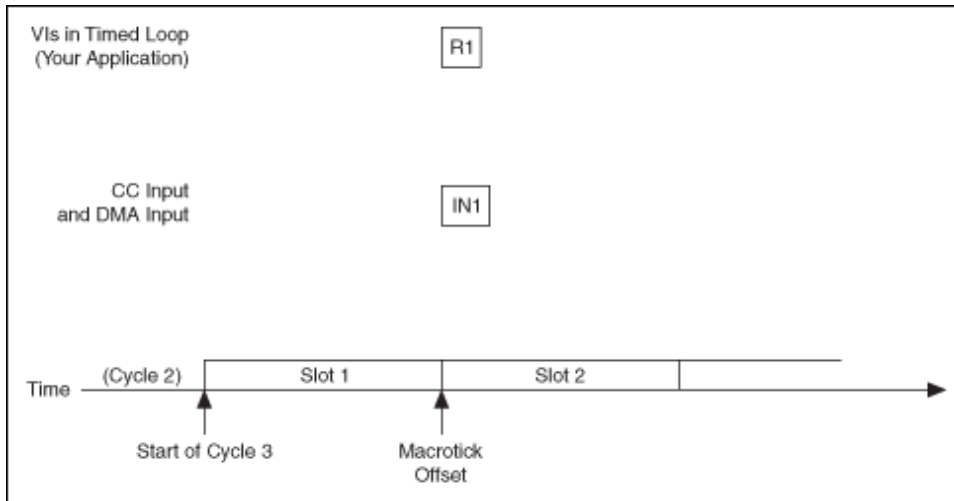
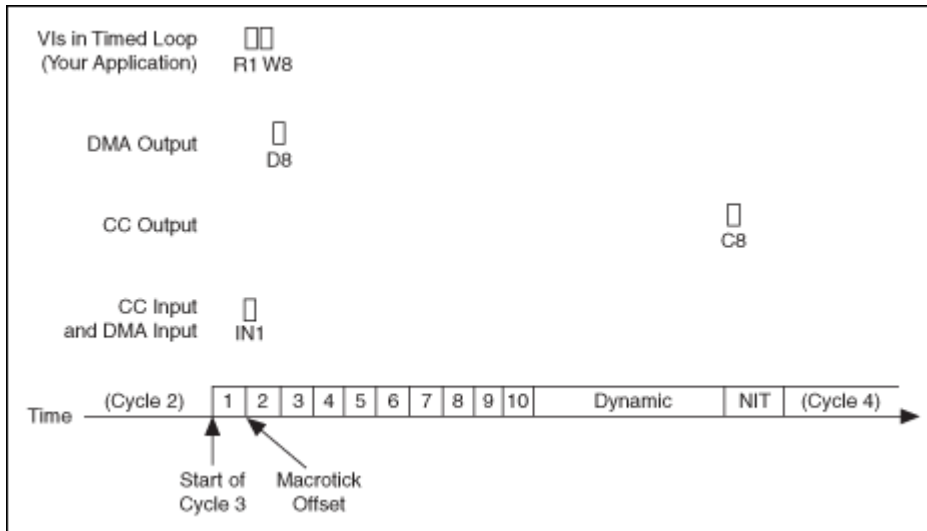

Figure 1—FlexRay Frame Timed Read
Figure 2—FlexRay Frame Timed Write
Figure 1 shows the effects of this implementation. In this example, the macrotick offset is set to occur at the end of slot 1. The subdiagram in the Timed Loop calls the XNET Read VI to read the value received from slot 1.
For better visibility in Figures 1, 2, and 3, the NI-XNET blocks (Read/Write, DMA I/O, an dCC I/O) are longer than actual performance. When using a PXI controller for
Figure 1 shows that the DMA input transfer for slot 1 (IN1) occurs at the same time as the XNET Read VI for slot 1 (R1). Depending on which one completes first, the XNET Read VI may return a value from the current cycle (3) or the previous cycle (2).
To prevent this uncertainty, macrotick offset must be large enough to ensure that the frame DMA input is complete. Relative to Figure 1, setting macrotick offset to the end of slot 2 would suffice.
Figure 2 shows the effects of this implementation. This example expands on Figure 1 by calling the XNET Write VI with a value for slot 8. The XNET Write VI (W8) is called well in advance of slot 8 in the cycle. The DMA output transfer for the value of slot 8